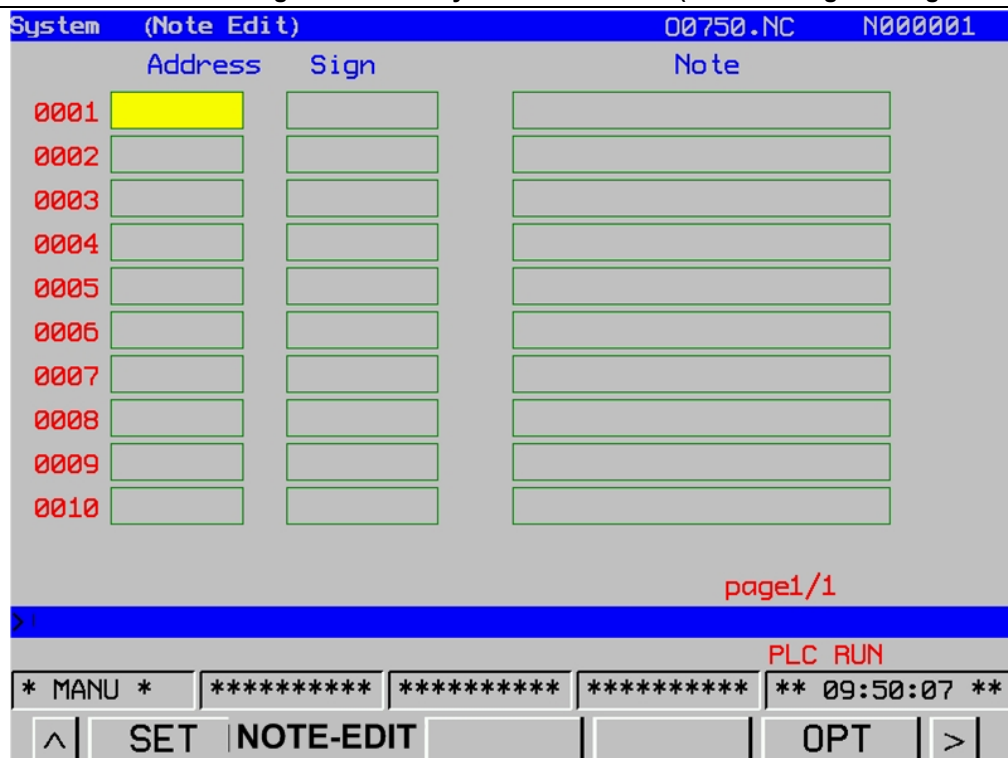

Fig. 3-6-7
- a. The displayed content can be set by the **[Set]** interface. (Refer to Fig.3-6-7)